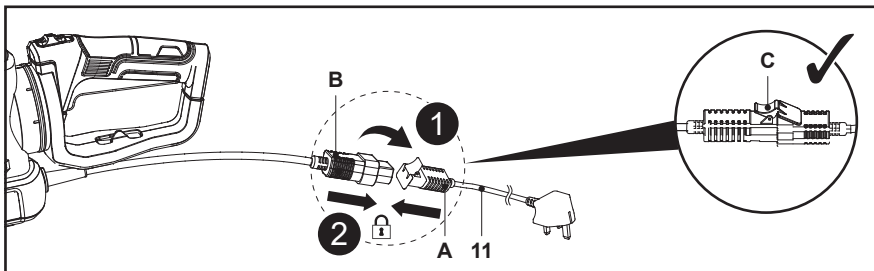

Fig. 2
1. Open the lid (C) of the plug socket (A) on power cord (11), then align the plug pins (B) with the slots of the plug socket (A) and press them together. Ensure proper assembly and then secure the lid (C) in position (Fig. 2, steps 1, 2).